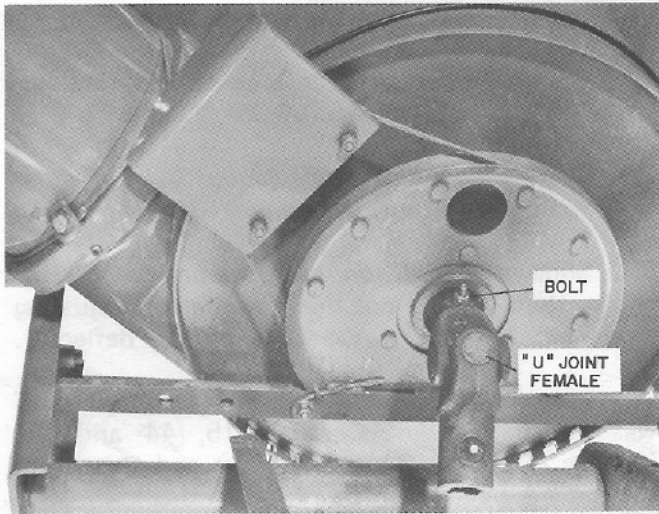

fig 5
8. Bolt female "U" joint of drive shaft to fan shaft, items 75, 47, 44 and 48. See fig 5.